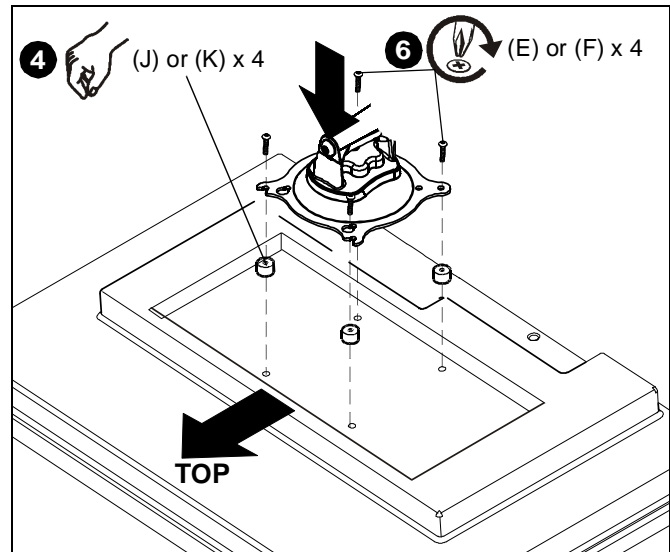

Figure 4
- Place the three (J or K) spacers over each mounting hole on the back of display. (See Figure 4)
- Orient mount so that mounting holes in the Centris Turntite head are aligned with the holes in the spacers (J or K). Rotate the Centris Turntite head as required. (See Figure 4)
- Using Phillips screwdriver, install four Phillips screws (E or F) through the mounting holes in Centris Turntite head and the spacers (J or K), into display. (See Figure 4)